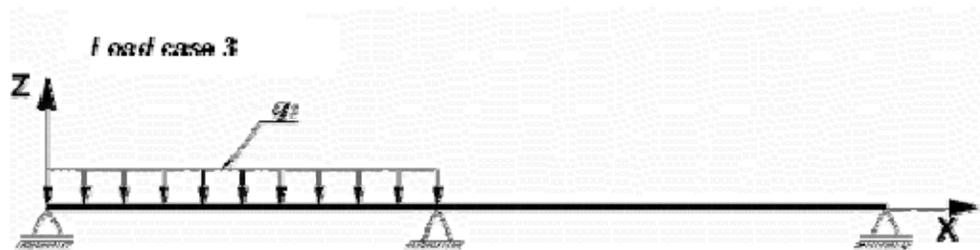

Figure 7.5 Load case No.3 for beam
- load case 3 – uniformly distributed load in the first span $q_3 = 0.87$ t/m (see Figure 7.5);